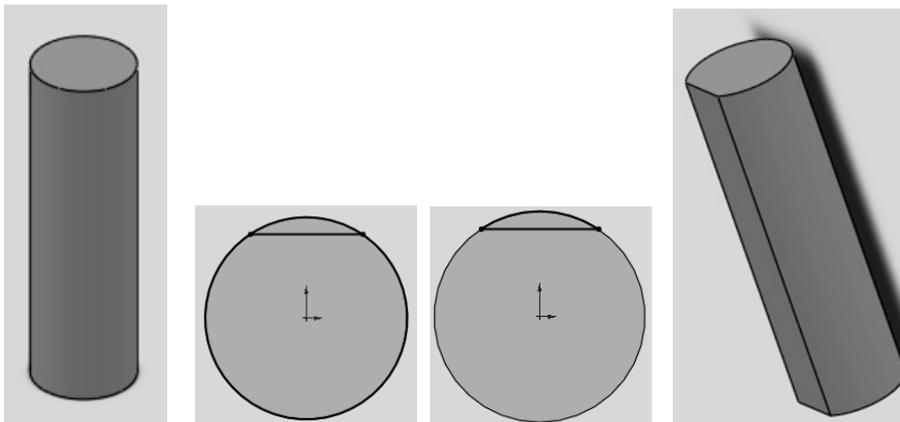

Figure P-6 Cut-out cylinder
6. Use the information in the Convert Entities section to create the cut-out cylinder model shown in Figure P-6; start with a cylinder of 20 mm diameter and 50mm long.